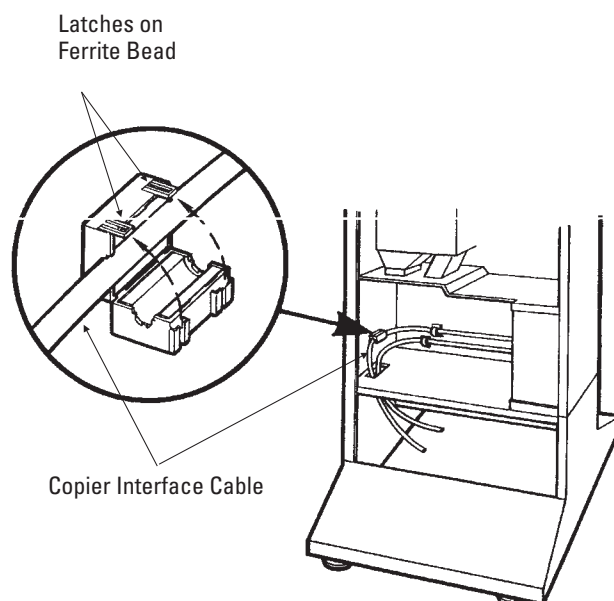

Figure 3-3:
- 3 Using a ball point pen or small screwdriver, pry open the latches on the ferrite bead (Figure 3-3). Place the copier interface cable into the bead then close the bead over the cable. (Be sure the latches engage.)